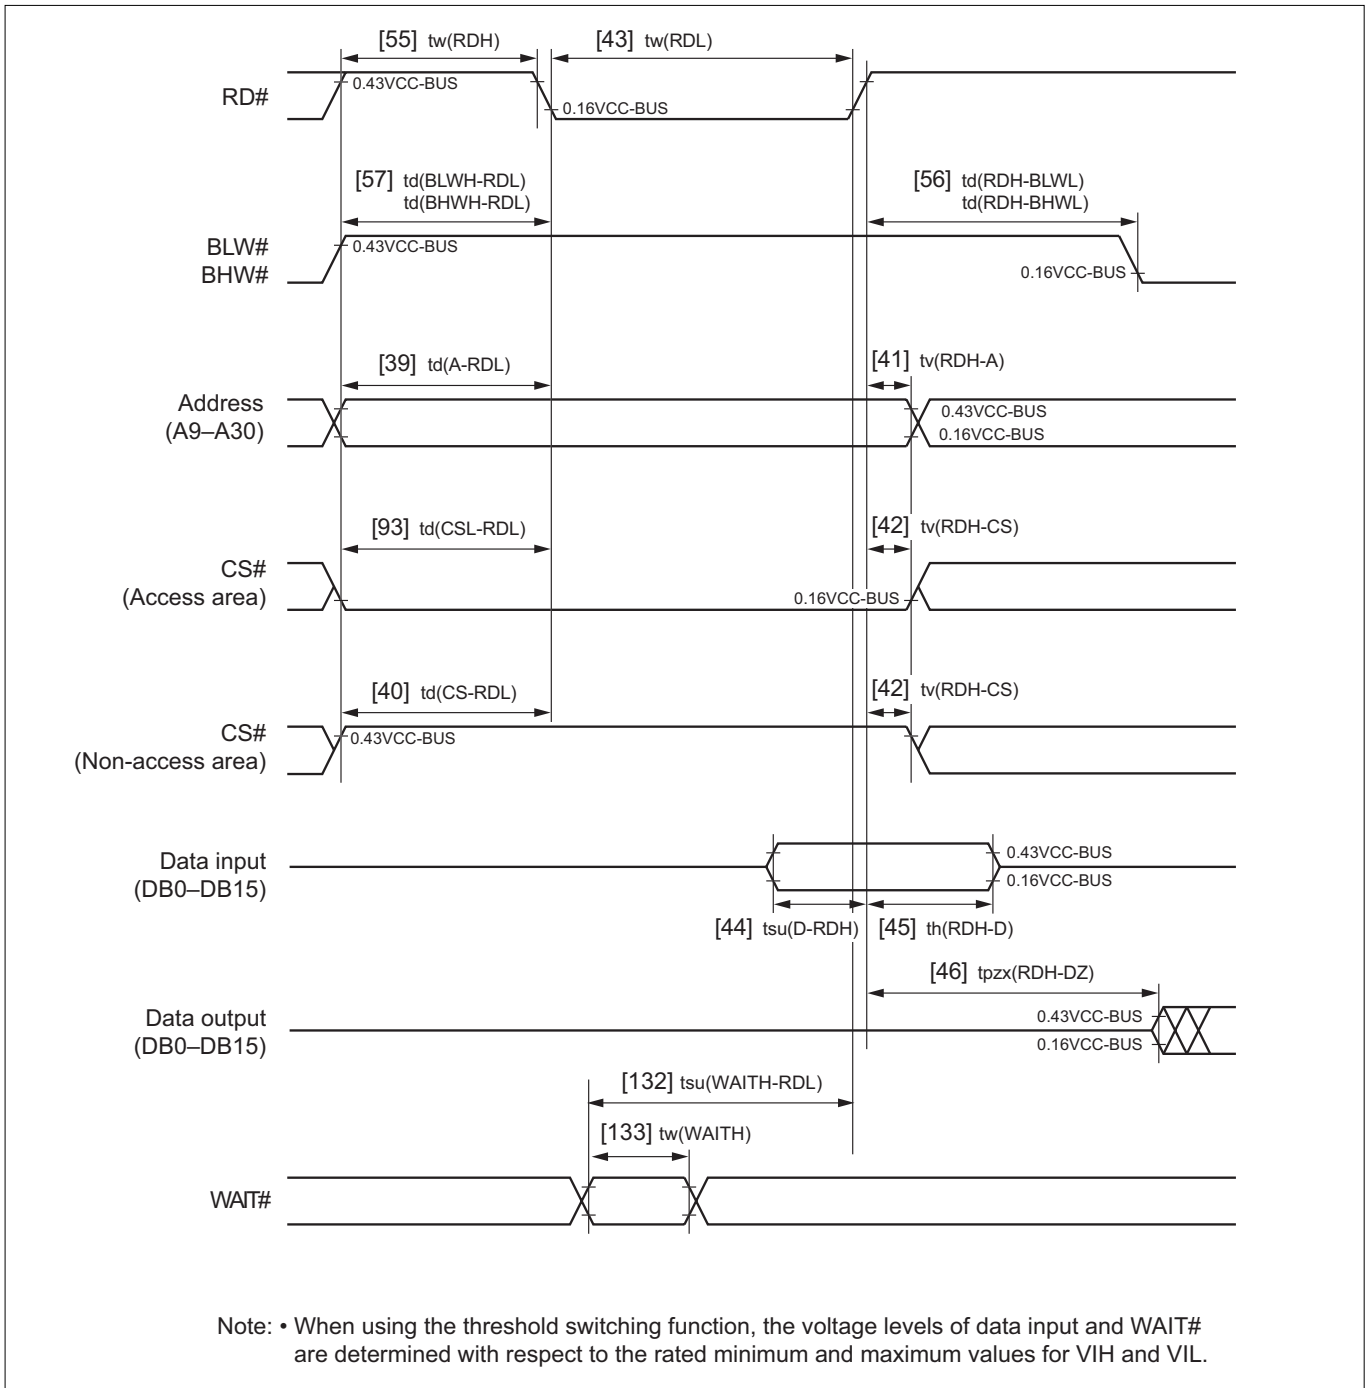
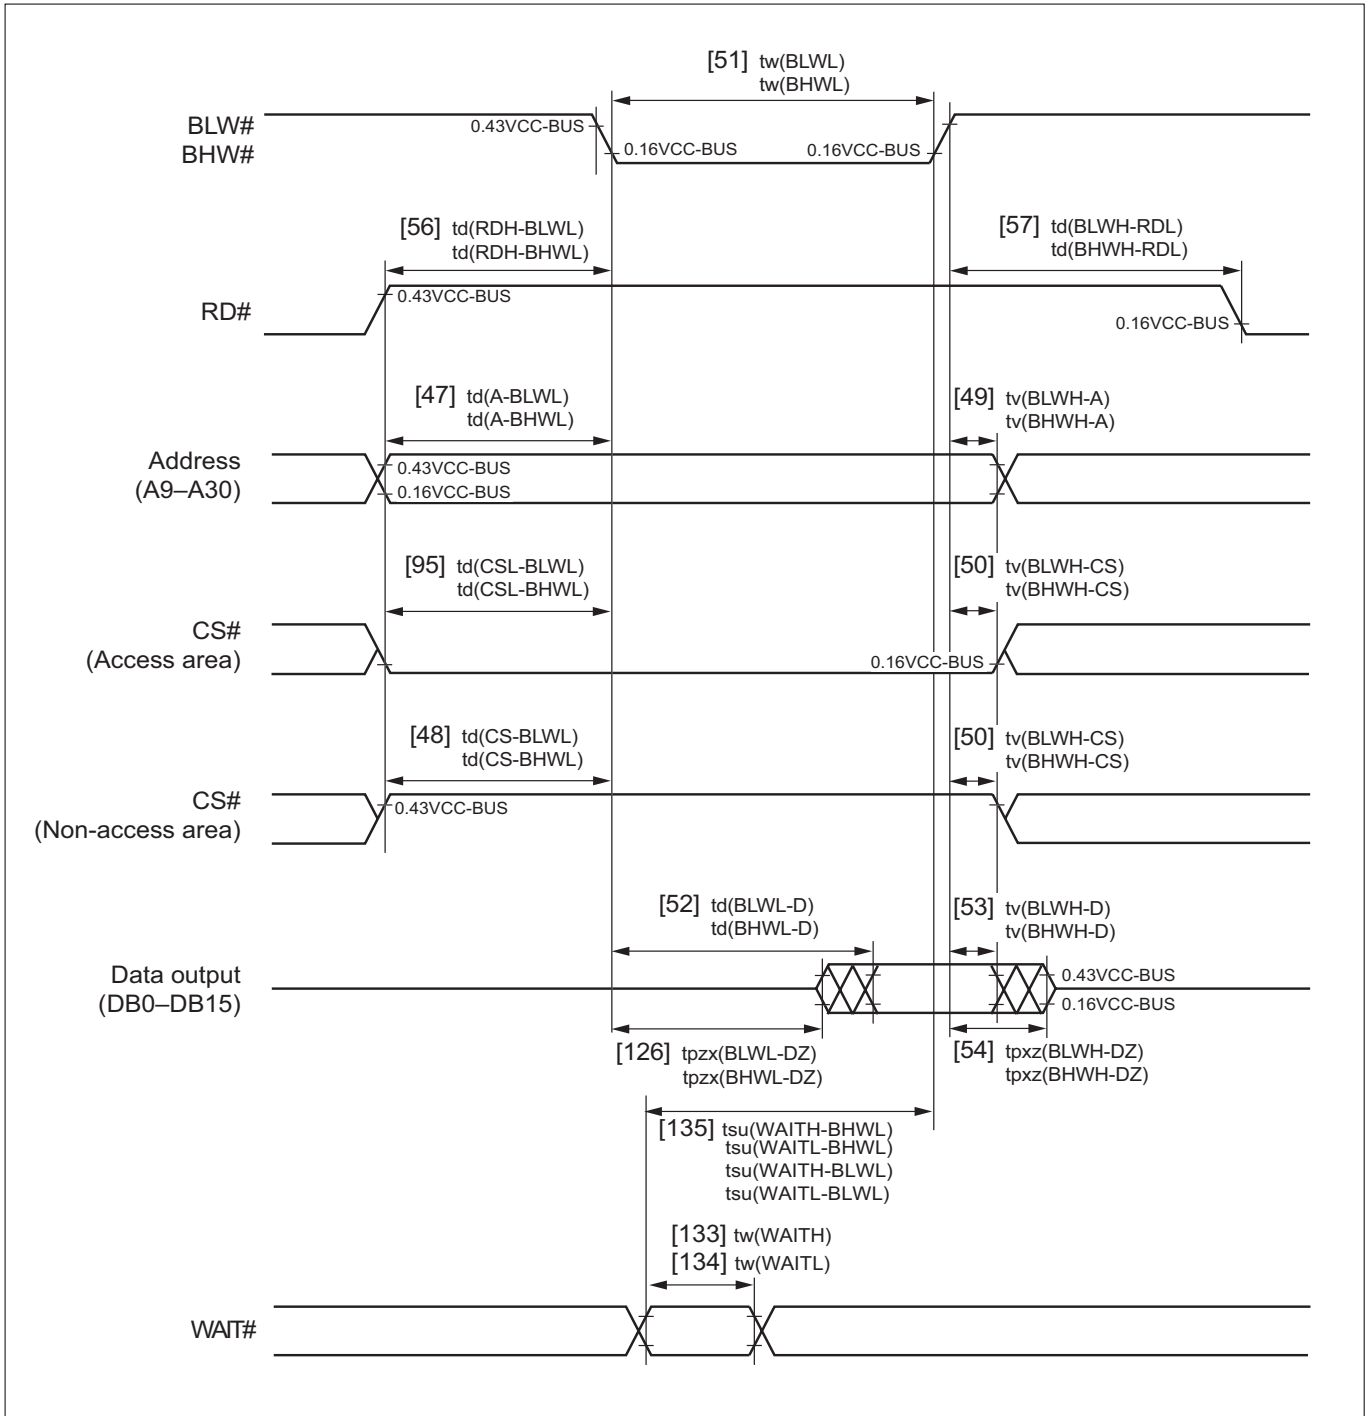

Figure 23.10.12 Read Timing (Relative to Read Pulse)
Figure 23.10.13 Write Timing (Relative to Write Pulse)
- For signal-to-signal timing, see Figure 23.10.12, "Read Timing (Relative to Read Pulse)," and Figure 23.10.13, "Write Timing (Relative to Write Pulse)."